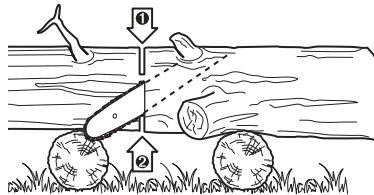

Fig. 45
- > When the log is supported on both ends (Fig. 45), cut 1/3 the diameter from the top (overbuck). Then make the finished cut by underbucking the lower 2/3 to meet the first cut.